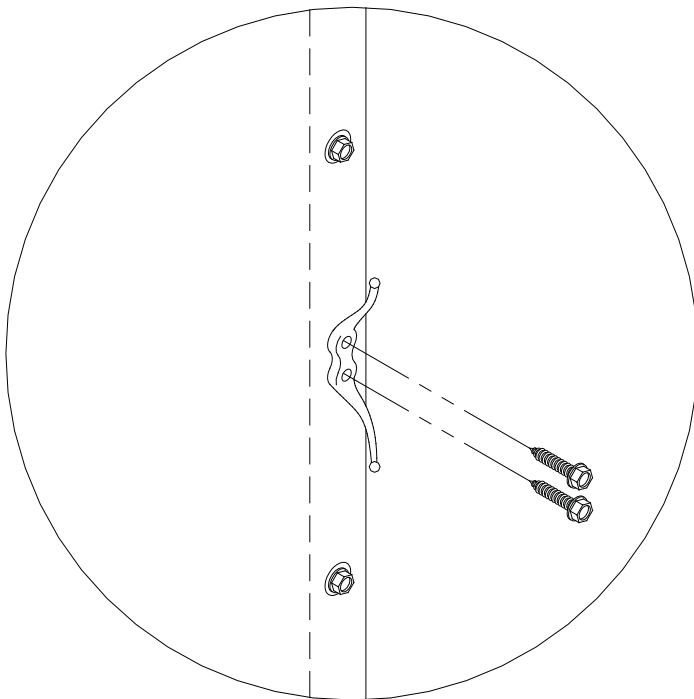

FIGURE 4
- Secure cleat into position using the supplied screws. (See Figure 4)